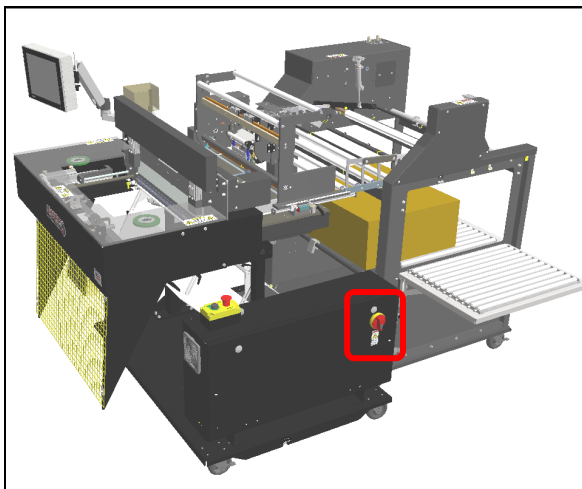

Figure 5-1B. Power Entry Module Switch.
3. Turn Main Power Switch to ON position. Figure 5-1B.